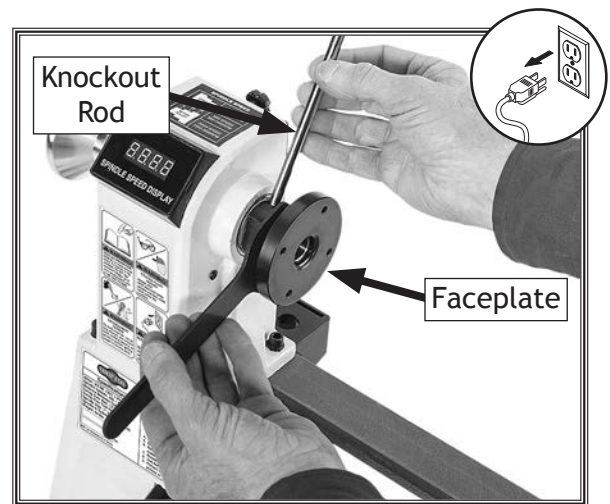

Figure 18. Removing faceplate.
2. Put open end of wrench over flats behind faceplate. While holding spindle in place with knockout rod, turn wrench counterclockwise until faceplate is removed (see **Figure 18**).
3. Insert knockout rod into one hole on spindle, then tighten/secure faceplate with open-end wrench (see **Figure 18**).